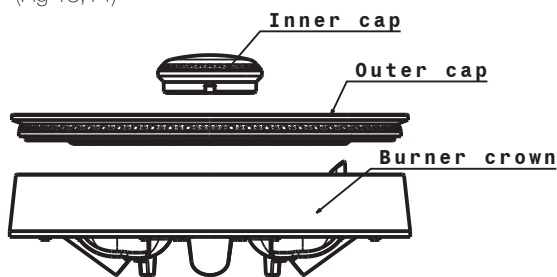

Fig 13
- When cleaning the burner, ensure that all the flame ports, injector hole and other holes are free of any blockage. (Fig 13,14)